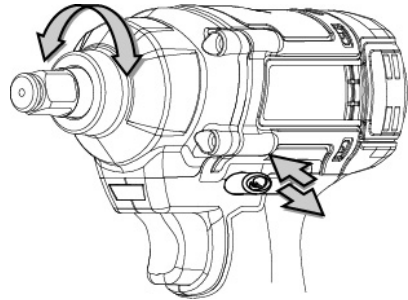

Fig.5
4. For reversing the machine, (See Fig.5) use the forward / reverse rod on the drive unit. The directions of the rotation are also shown on the face of the bar.